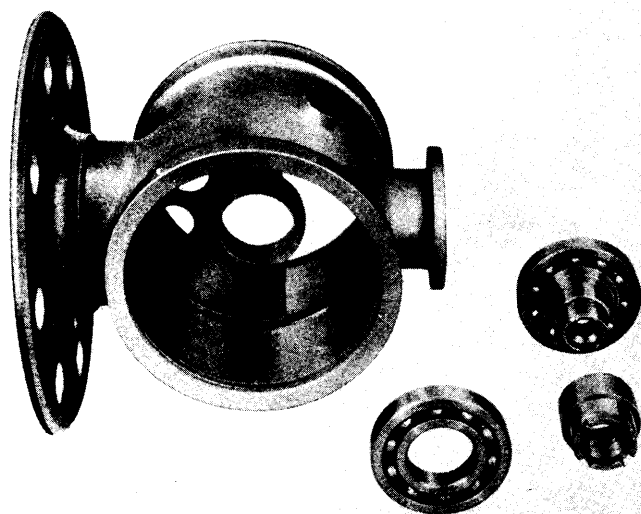

Figure 15. Preloading Bearings and Sleeve
(1) Remove the thrust bearing retainer from hub bore.
(2) Remove the bearing lubricant seal ring from hub bore and lubricant packing seals from the flange.
(3) Pull out blade flange and thrust bearing assembly.
k. PRELOAD BEARING AND PRELOAD PARTS. (See figure 15)—Detach the preload bearing and sleeve, preload screw from the center bearing support in the hub.